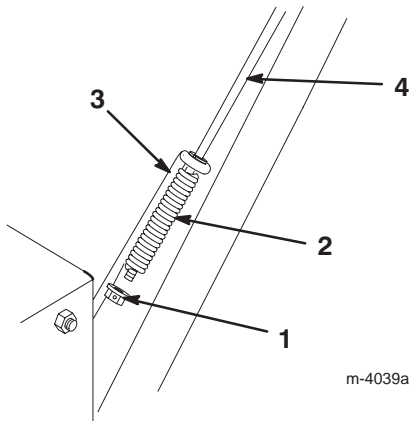

Figure 10
1. Slide the spring over the bottom of the upper traction rod (Fig. 10).
2. Thread a flange locknut (flange side up) onto the bottom of the upper traction rod below the spring (Fig. 10).